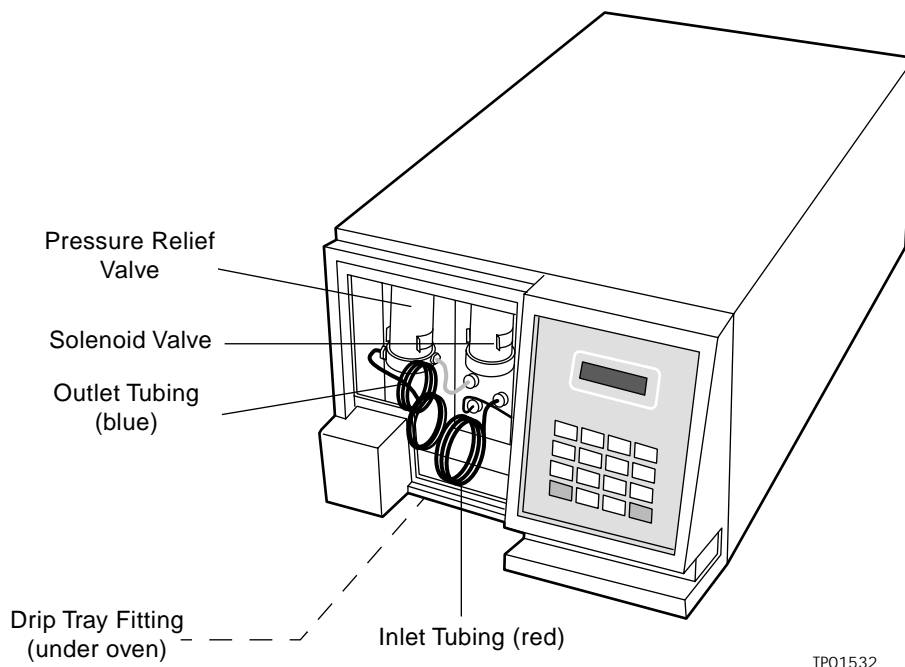

Figure 2-4 Fluidic Connections
The fluidic connections for the 2410 refractometer are located to the left of the keypad on the front panel (Figure 2-4).
2. Connect the tubing to the white plastic fitting located under the oven of the 2410 refractometer (see Figure 2-4).